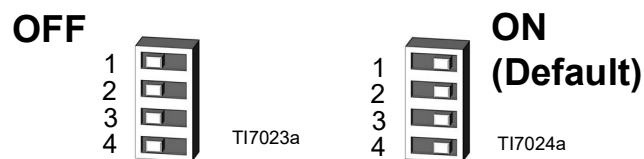

FIG. 46. DIP Switch (SW2) Settings
2. Set the four DIP switches to the desired positions. See FIG. 46 and Table 2.